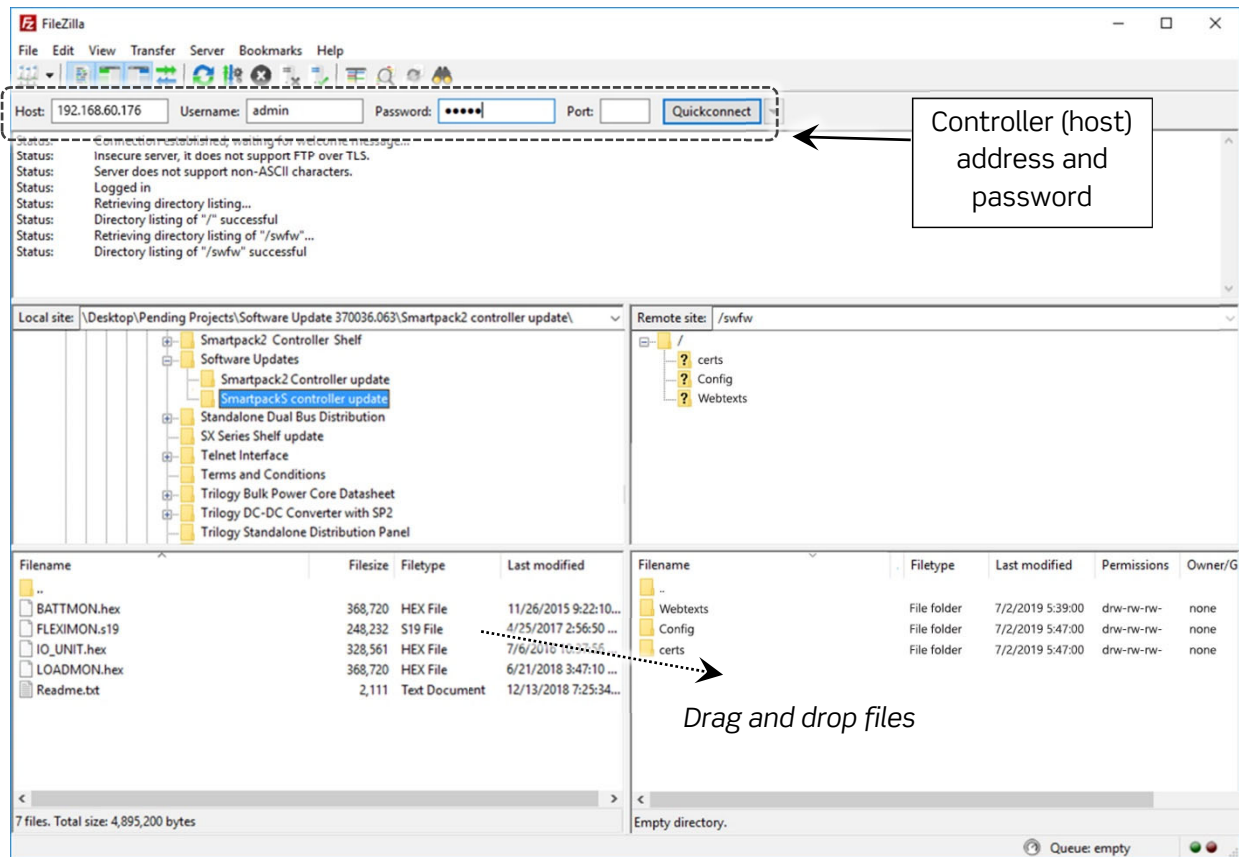

Figure 13 - Copying Upgrade Files
4. Choose the **SPS.CRY** file on your computer to be transferred to the controller, then drag and drop it (or right-click and choose **Upload**), to copy it to the controller (see Figure 13).
4. Choose the file(s) on your computer to be transferred to the controller, then drag and drop them (or right-click and choose **Upload**), to copy them to the controller (see Figure 13).